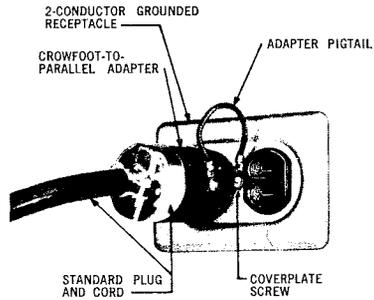

Fig. 10 – Grounded 2-Conductor Receptacle
nonmetallic sheath cable with a grounding conductor, the outlet boxes may be grounded. Under these conditions and only after it has been found that the boxes are grounded, the grounding pigtail terminal on the adapter or plug may be fastened under the coverplate screw of the receptacle. (See Fig. 10).
- 5.04** In grounding to a 2-Conductor receptacle (Fig. 10), connect pigtail to coverplate screw before inserting adapter into the receptacle.